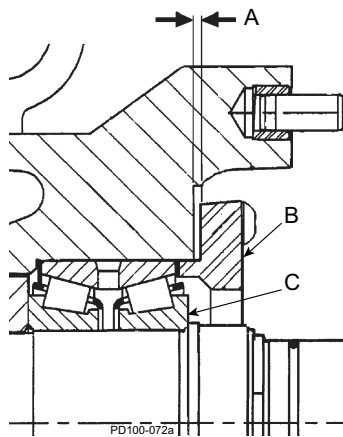

Figure 284 - Bearing Retainer Clearance
5. The bearing retainer (Figure 284, item B) must rest firmly against the bearing. Leave a 0.010 to 0.050 in (0.25 to 1.25 mm) clearance between the back of the bearing retainer and the front of the gear case (Figure 284, item A). If this clearance is not met, place shims between the bearing (Figure 284, item C) and retainer.